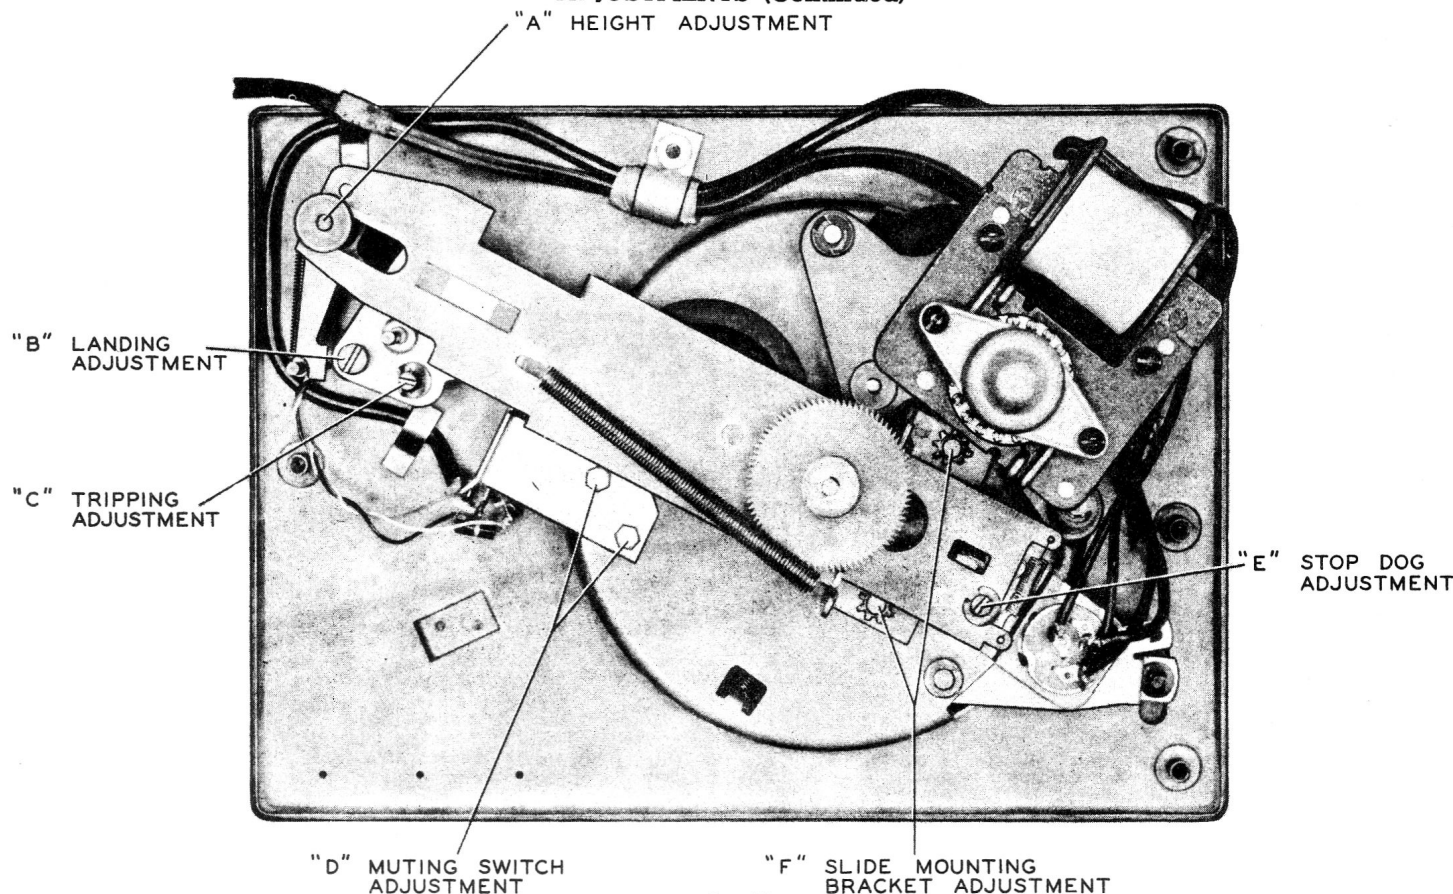

Fig. 38
Under ordinary conditions the landing adjustment is a screw-driver adjustment as shown. The adjustment of eccentric landing adjustment stud (B) gives approximately a $\frac{1}{4}$ " movement. (See Figs. 38, 40.)
5. Exact landing adjustment can now be made by a screw-driver on stud (B). (See Fig. 38.)
Pickup Height Adjustment (See Fig. 38):
Mounting Bracket Adjustment (See Fig. 38):
Muting Switch Adjustment (See Fig. 38):
Stop Dog Adjustment (See Fig. 38):